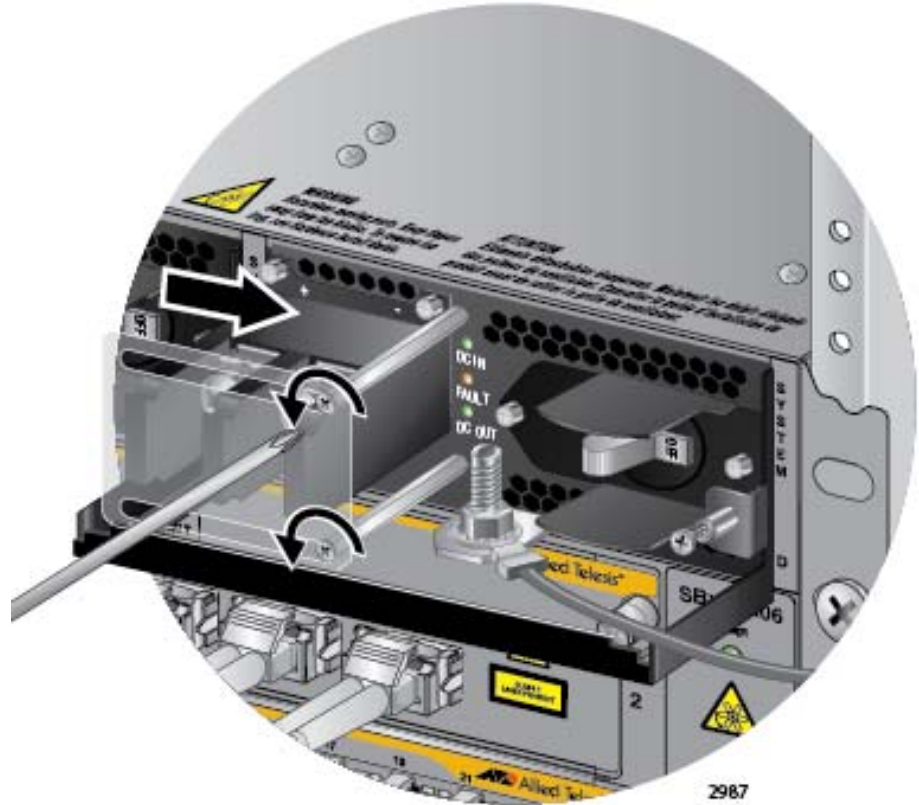

Figure 135. Opening the Plastic Cover
4. Use a #1 Phillips-head screwdriver to loosen the two screws on the plastic cover over the positive and negative terminals on the power supply and slide the cover to the right, as shown in Figure 135 on page 211. You may need to slightly lift the locking handle to access the bottom screw.
2. Use a #1 Phillips-head screwdriver to loosen the two screws on the plastic cover over the positive and negative terminals on the power supply and slide the cover to the right, as shown in Figure 135 on page 211. You may need to lift the locking handle slightly to access the bottom screw.